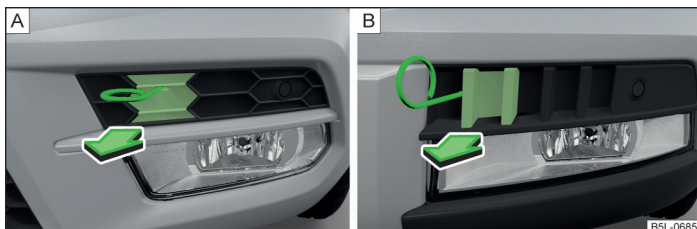

Fig. 198 Guard: Version 1/version 2
- Remove the plastic cover for the guard in the arrow direction » Fig. 198 using the bow to pull the full wheel covers » page 220, *Vehicle tool kit*.
- Replace the plastic cover and press into the guard » Fig. 198 on page 241²⁾.